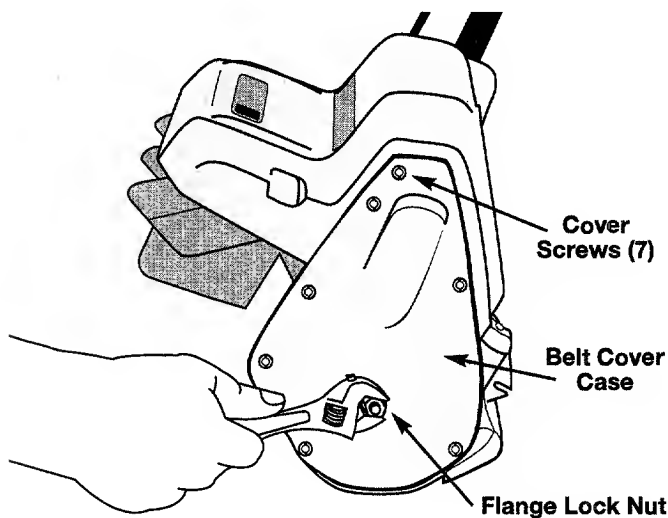

Fig. 7
1. Remove the flange lock nut from the belt case cover with a wrench or nut driver (Fig. 7).
2. Remove the seven (7) screws from the belt case cover using a #T20 Torx bit or flat blade screwdriver (Fig. 7).